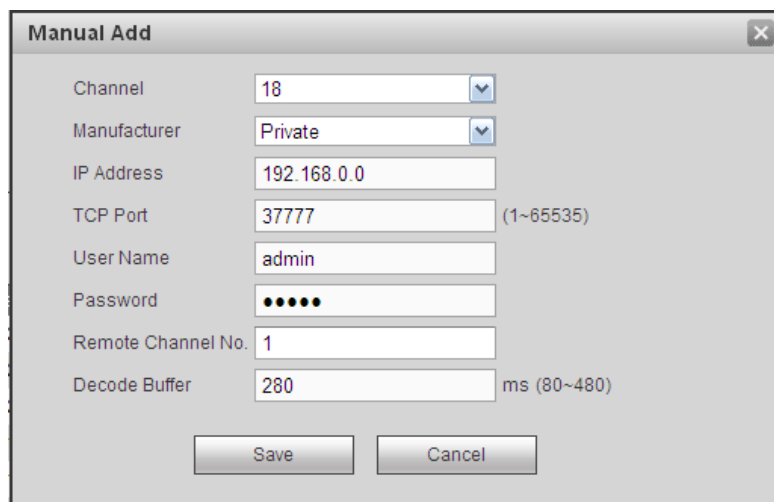

Figure 4-26
Step 1 Click Manual add to register the camera manually. There are three modes: TCP/UDP/Auto. The default setup is TCP. See Figure 4-26.